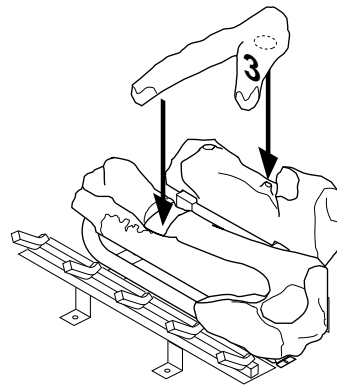

Figure 57 - Installing Log No. 3
3. Place log #3 (crossover log) onto the rear and front logs. Make sure it is seated properly into the notch on the front log and over the raised triangular portion of the rear log as shown in Figure 57.